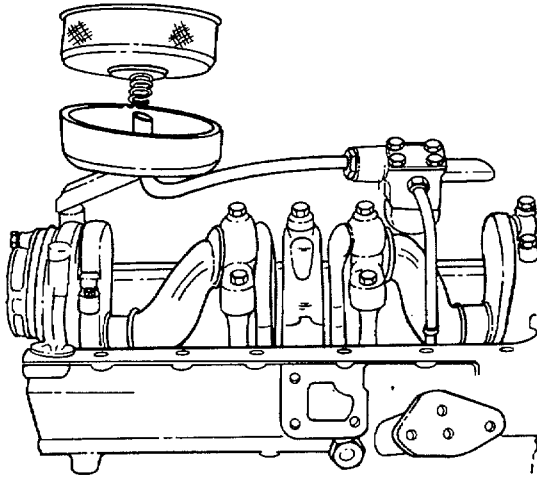

Figure 5-43. Oil Pump Strainer Removal.
- (1) Drain the engine oil and remove oil pan (see a above).
- (2) Remove the strainer (7, Appendix F, Figure 60) from the end of the suction pipe (see Figure 5-43).